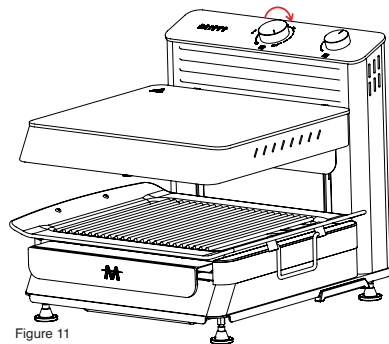

Figure 11
- Turn the power setting button to 100 and run the product for approximately ~ 5-10 minutes without any load and then turn it off. In this way, any waste and layers that may have remained in the product during production will be burned and cleaned. During this process, a one-time odor and smoke may come out of the product due to the heating elements. Ventilate your environment to avoid being bothered by the odor and smoke. (Figure 11).